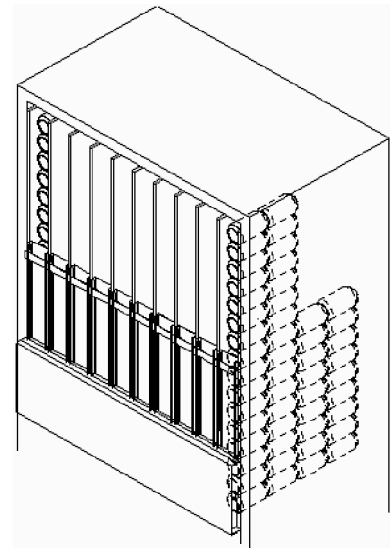

Figure 5.11 Isometric View
3. At this point product should be loaded as shown in **Figure 5.11**.